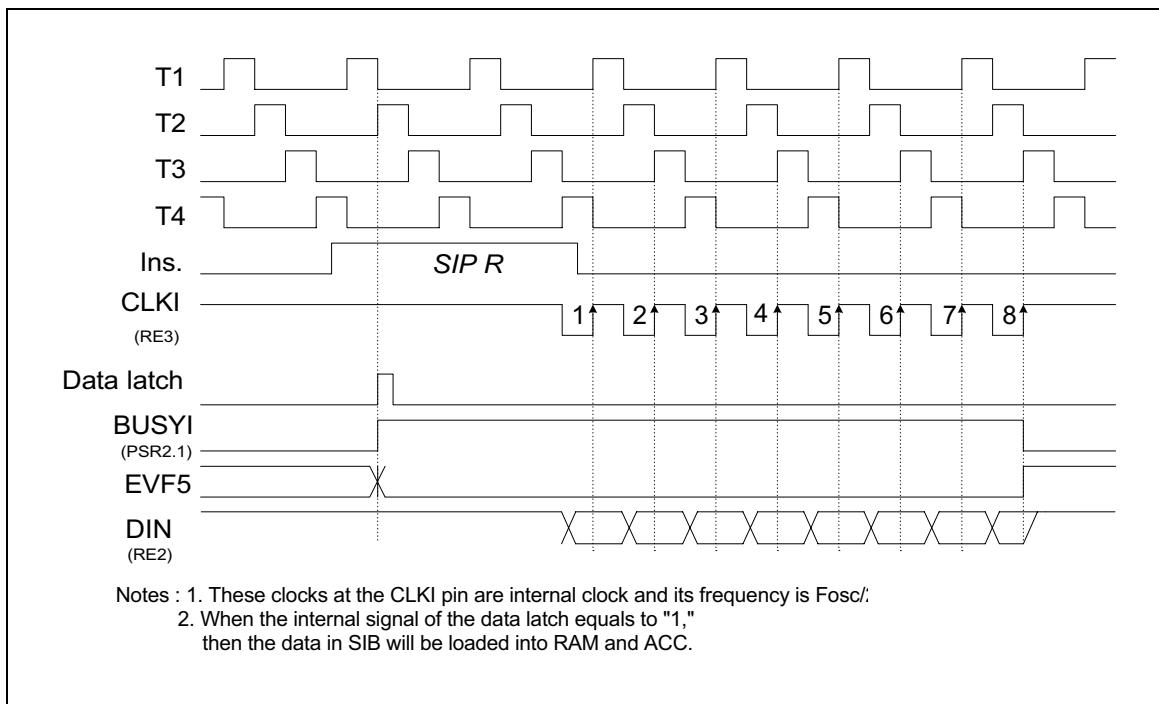

Figure 11. Timing of the Serial Input Function (SIP R)
(1) When the SIP R instruction is executed, the data will be loaded from the serial input buffer to the ACC and RAM first, and bit 1 of port status register 2 will automatically be set to "1" (BUSYI = 1). Then the CLKI pin will send out 8 clocks and the data from the DIN pin will be loaded to SIB at the rising edge of the CLKI pin. After the 8 clocks have been sent, BUSYI will be reset to "0" and EVF.5 will be set to "1." At this time, if IEF.5 has been set (IEF.5 = 1), an interrupt is executed; if HEF.5 has been set (HEF.5 = 1), the hold state is terminated. Users can check the status of PSR2.1 (BUSYI) to know whether the serial input process is completed or not. If a serial input process is not completed, and the SIP R instruction is executed again, the data will be lost. The timing is shown in Figure 11.